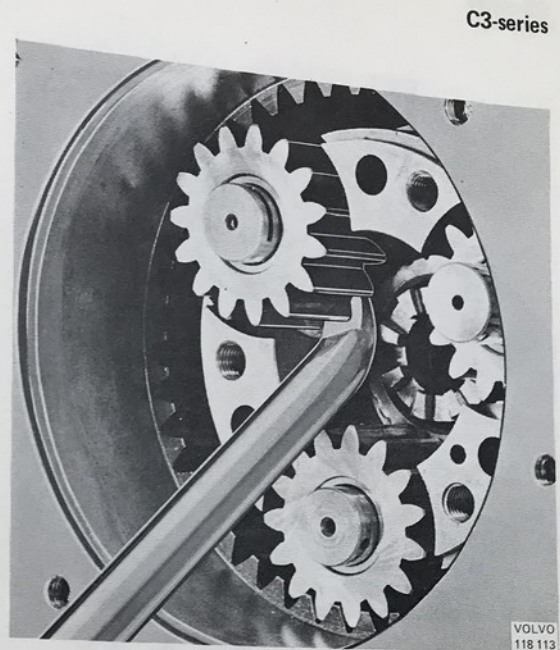

Fig. 92-48. Removing the gear
7. Place the winch on its high edge. Remove the washers on the planetary gears and lever out the gears with 2337, see Fig. 92-48. Remove the needle bearings and the washers on the shafts.